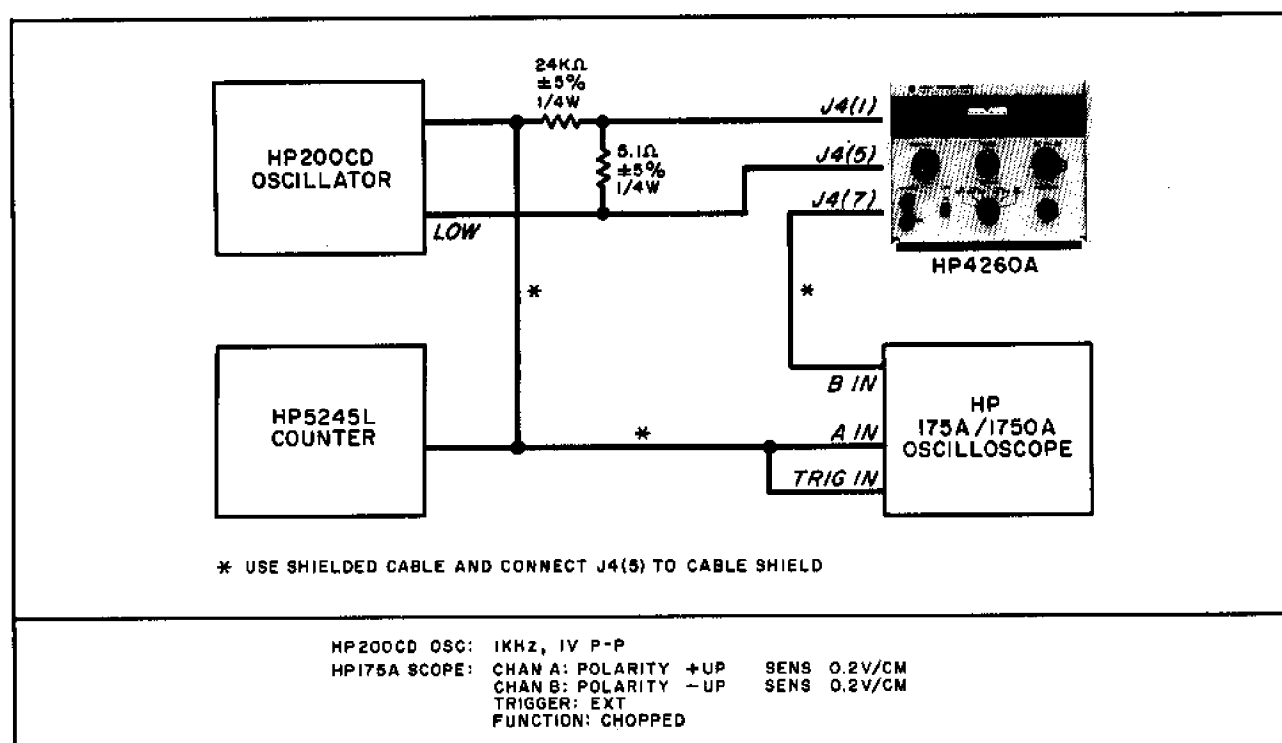

Figure 5-4. Error Signal Amplifier Phase and Gain Test Setup
5-26. ERROR SIGNAL PHASE AND GAIN. To check phase and gain of the error signal amplifier on detector assembly A400, the test setup of Figure 5-4 is required.
- b. Connect the equipment as shown in Figure 5-4.